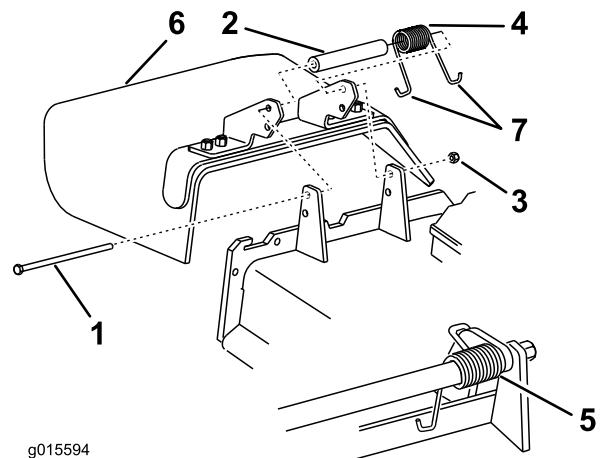

Figure 58
3. Remove the locknut, bolt, spring and spacer securing the deflector to the pivot brackets (Figure 58).
5. Place one J-hook end of the spring behind the deck edge (Figure 58).
Note: Ensure that one J-hook end of the spring is installed behind the deck edge before installing the bolt as shown in Figure 58.
7. Place one J-hook end of the spring around the grass deflector (Figure 58).